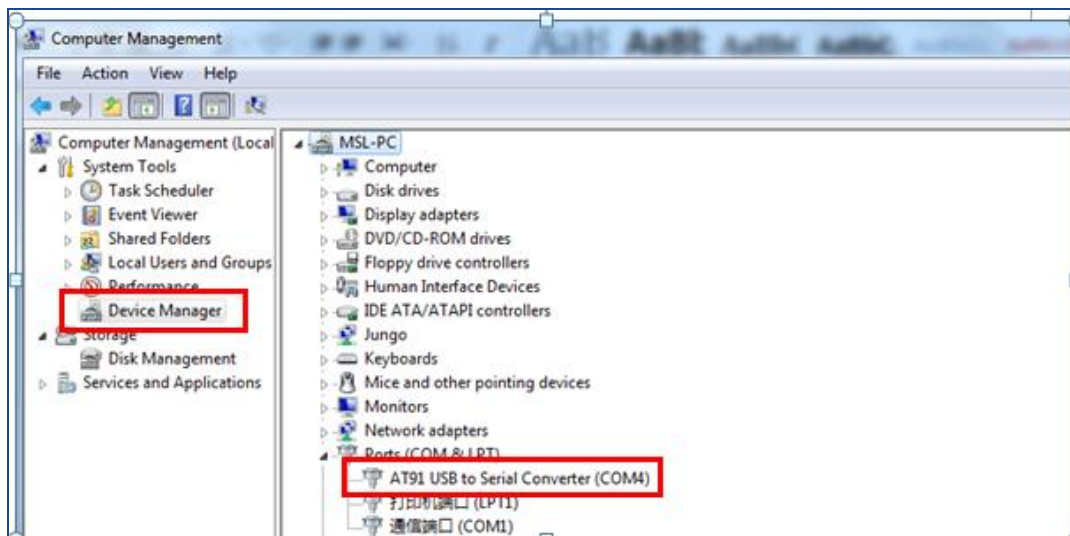

Figure 3-3
- (2) If there is figure 3-3 in "computer->properties->Management-> device manager-> port", which shows board driver has been installed (According to the actual situation, here for COM4).